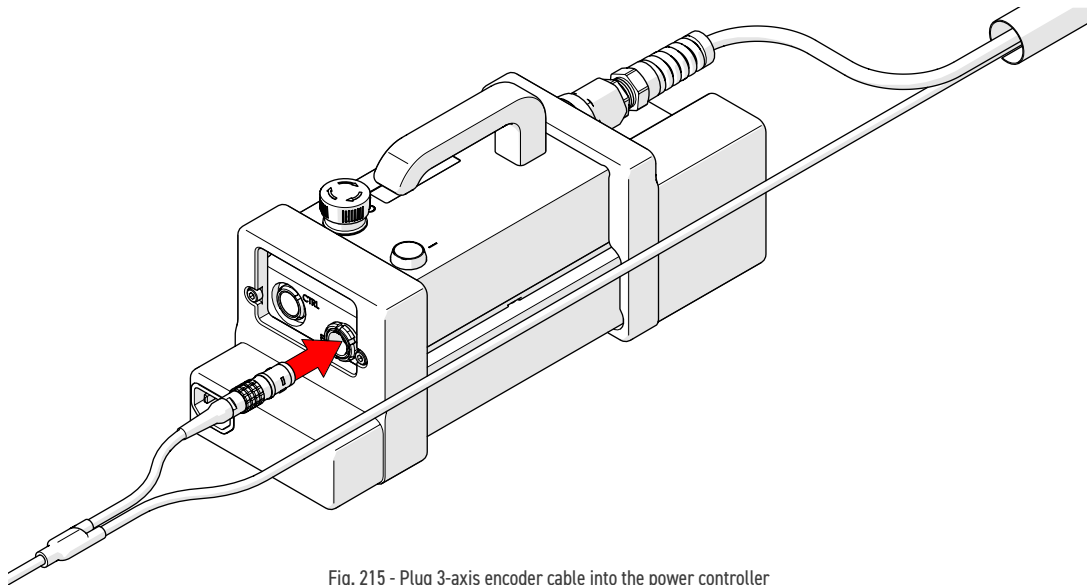

Fig. 215 - Plug 3-axis encoder cable into the power controller
12. Plug the opposite end of the 3-axis encoder cable into the power controller's encoder receptacle (Fig. 215).